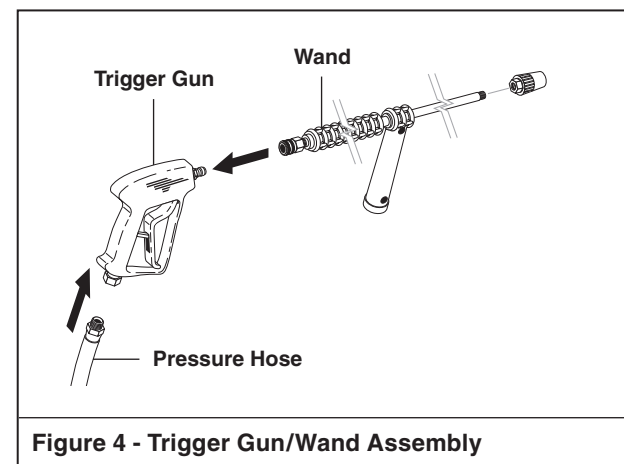

Figure 4 - Trigger Gun/Wand Assembly
3. Assemble wand components as shown in **Figure 4**. Connect pressure hose to trigger gun.